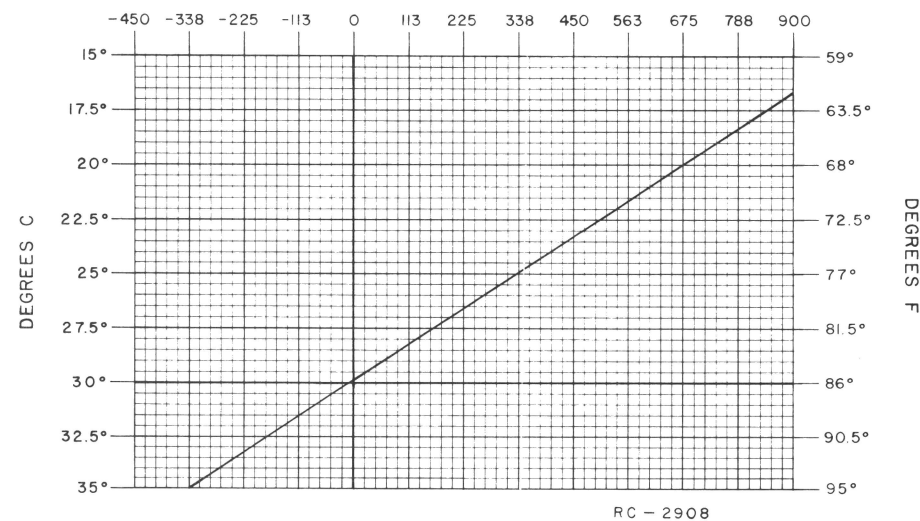

Figure 3 - Crystal Module Frequency Offset Chart
First, check the frequency to determine if any adjustment is required. (Refer to frequency offset chart, Figure 3.) The frequency measurement requires equipment with an absolute accuracy that is 5 to 10 times better than the tolerance to be maintained. When adjusting the frequency, the entire radio should be as near as possible to an ambient temperature of 30°C (86°F).
To set crystal frequency using "beat frequency" method, the temperature should be at 30°C (86°F). If the temperature is not 30°C, then offset the "ON FREQUENCY" signal (at the receiver's input), as a function of actual temperature, by the frequency ERROR FACTOR shown in Figure 3.
2. Maintain the radio at 30°C ( $\pm 5^\circ\text{C}$ ,  $-10^\circ\text{C}$ ) and offset the oscillator, as a function of actual temperature, by the frequency error shown in Figure 3.